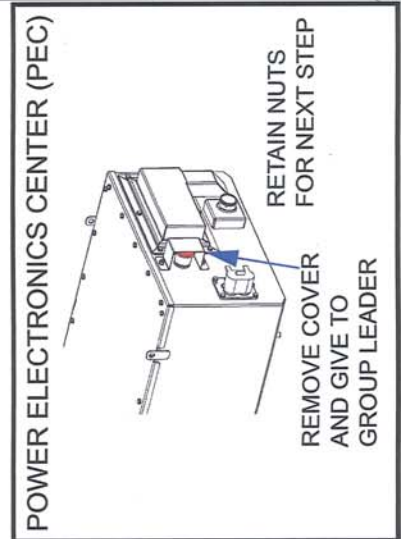

FIGURE 4 REMOVE COVER AND BOLTS
- STEP 3: REMOVE SERVICE SWITCH COVER MOUNTING BOLTS, AND RETAIN FIG. 4.